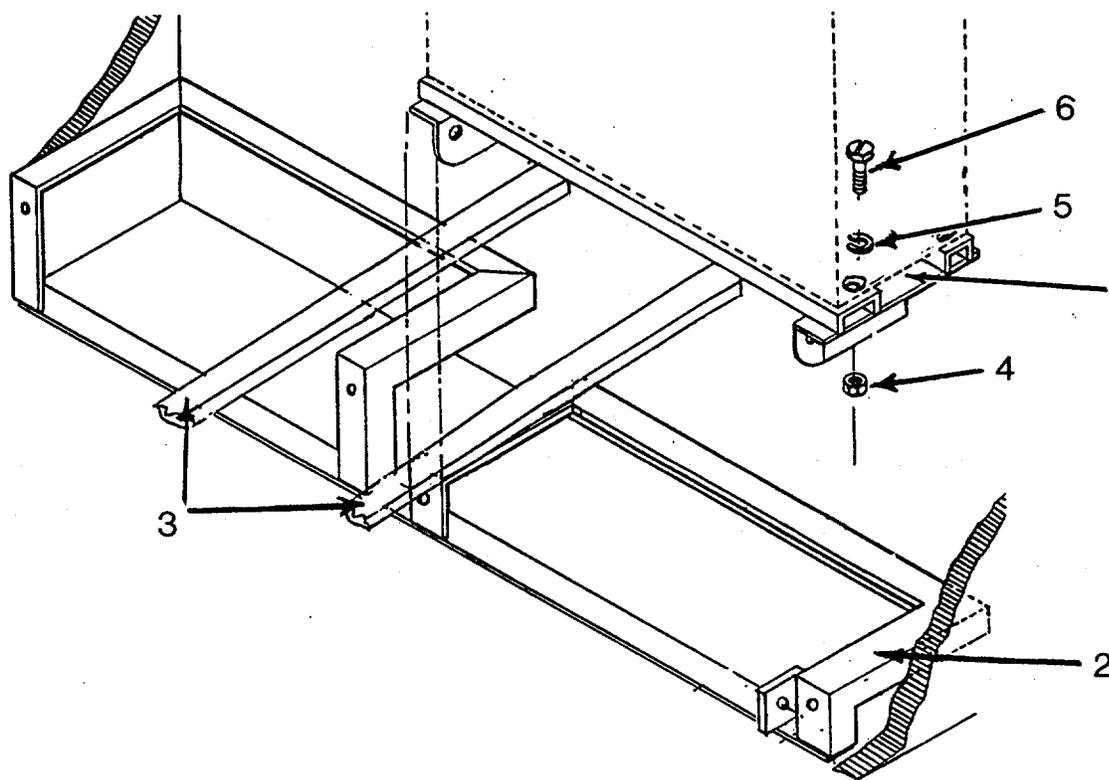

Figure 4-5. Lifting Air Conditioner With Fork Lift
(19) Slide air conditioner forward until rear of air conditioner mounting bracket (1, Figure 4-5) clears lower mounting bracket assembly (2).
(20) Carefully guide fork lift tines (3) under air conditioner mounting bracket (1) and move fork lift forward one foot to rear of mounting bracket.(1).
(21) Lift air conditioner from lower mounting bracket assembly (2) and guide fork lift operator back from shelter.
(22) Lower air conditioner to ground.